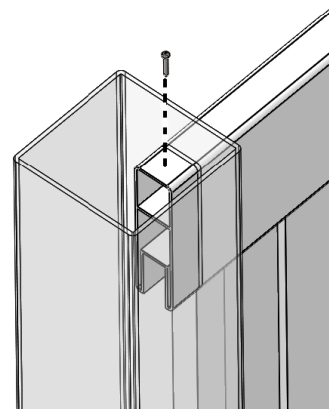

Figure 10
- Insert top rails, if there are no notches on rails put a set screw inside post into top rail (Figure 10). (leave $\frac{1}{4}$ " between the wall of the vinyl 5x5 and the screw head for thermal expansion or contraction)